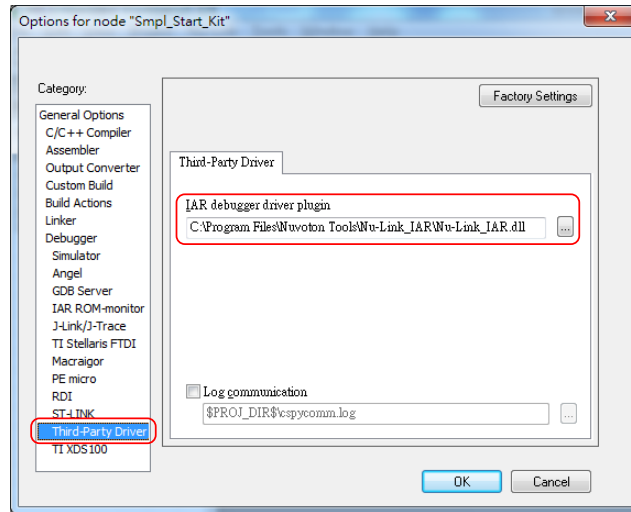

Figure 4-18 Set the Path of the IAR EWARM Debugger Driver Plugin
Step 7: In the **Third-Party Driver** page, specify the path of the IAR debugger driver plugin “C:\Program Files\Nuvoton Tools\Nu-Link_IAR\Nu-Link_IAR.dll”, as shown in Figure 4-18.